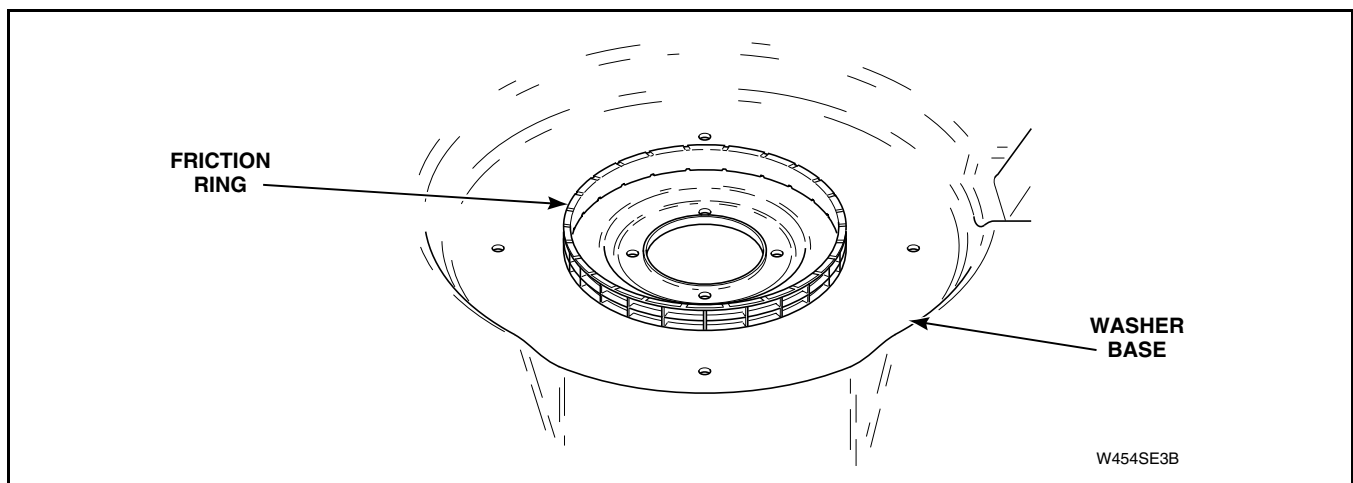

Figure 60
- n. Remove old friction ring from washer base. Refer to *Figure 60*.